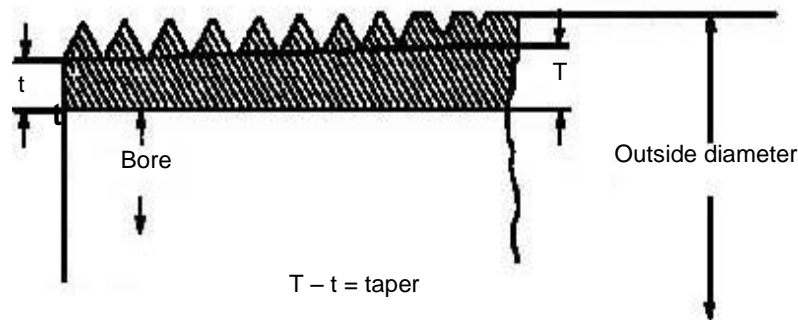

FIG 7.
A. BSP is the standard pipe thread adopted throughout the world. It is available in two forms, i.e. parallel and taper. See Fig 7 for the taper version.